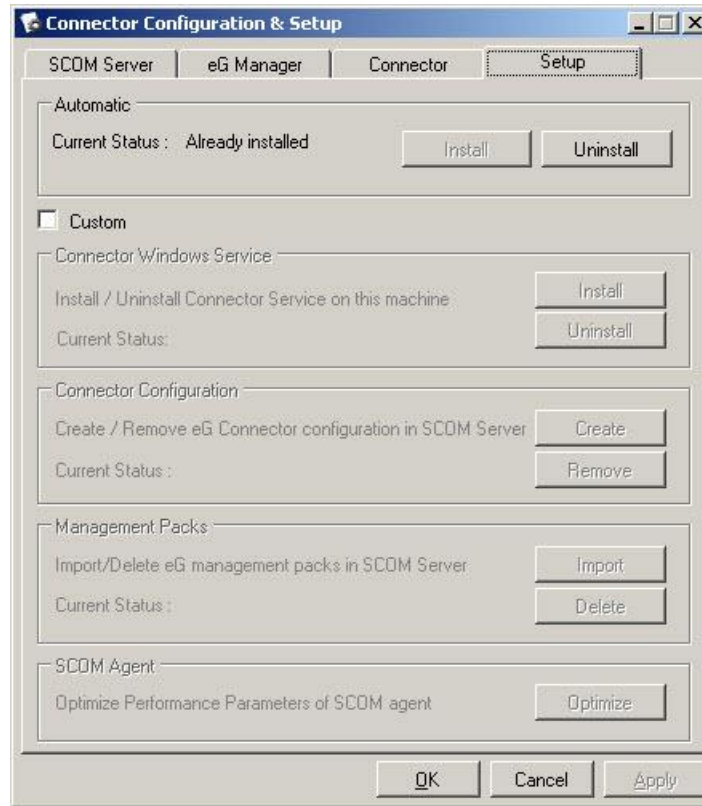

Figure 4.1: Clicking on the Setup tab page for uninstalling the connector configuration
2. When the **Connector Configuration & Setup** dialog box appears (see Figure 4.1), click on the **Setup** tab page therein.
- Click on the **Uninstall** button in the **Automatic** section of Figure 4.1. This will invoke Figure 4.2, which will list all the **Tasks** the uninstallation will perform.